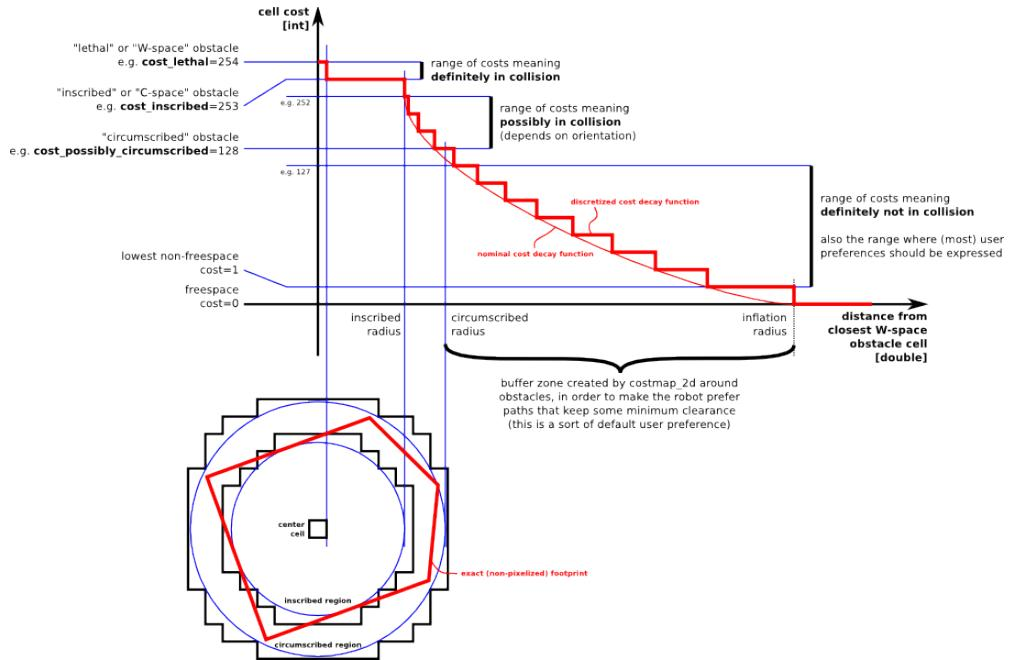

Figure B.1.: CostMap Valuation Diagram (Source: [http://wiki.ros.org/costmap\\_2d](http://wiki.ros.org/costmap_2d))
- Explain the following diagram (see Figure B.1).